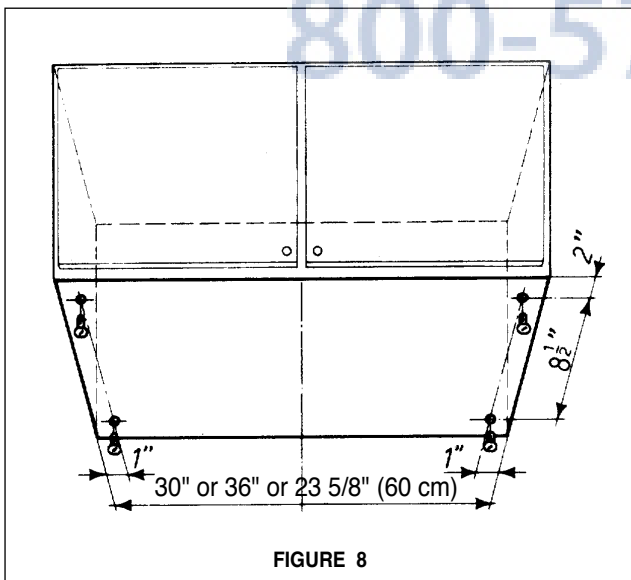

FIGURE 8
3. The Agio attaches to the cabinet by four black screws. Mark the cabinet and insert the screws into the underside of the cabinet as shown in FIGURE 8. Do not tighten the screws.